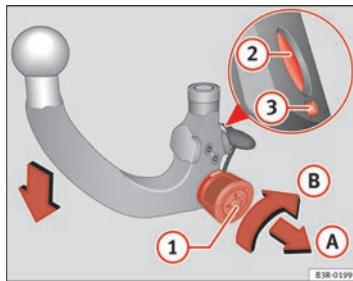

Fig. 155 Removable towing bracket: Setting the spring mechanism to the 'ready' position
- Insert the key **1** ⇒ page 203, fig. 155 in the lock on the knob and turn it towards the red marking.